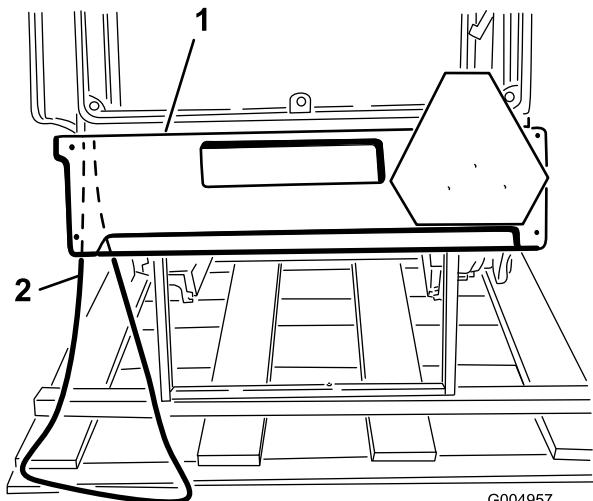

Figure 10
- To gain access to the heater supply hoses, remove the screws securing the rear of the side panels and the back panel to the cab assembly and remove the back panel (Figure 10). Do not remove the side panels.
- On the left rear corner of the cab assembly, locate the label on the hose marked "Pressure" (Figure 10).